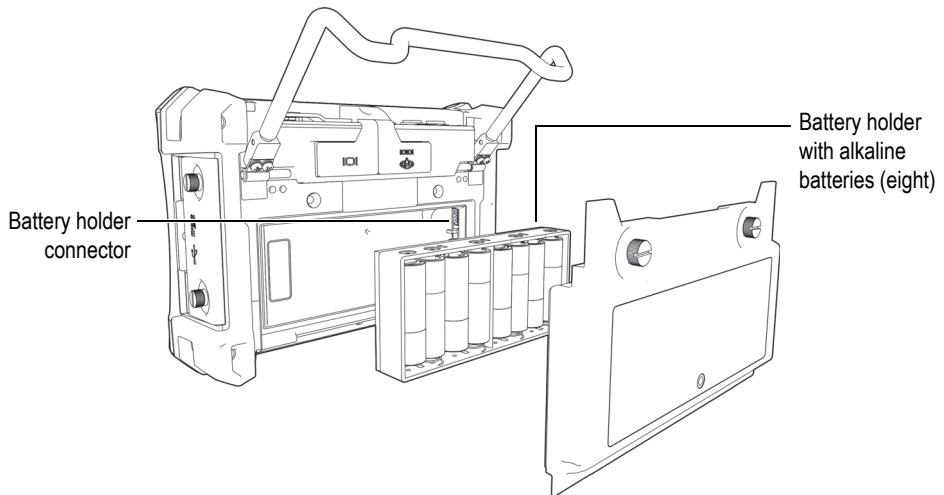

Figure 1-12 The alkaline battery holder
6. Position the alkaline battery holder in the battery compartment (see Figure 1-12 on page 29).